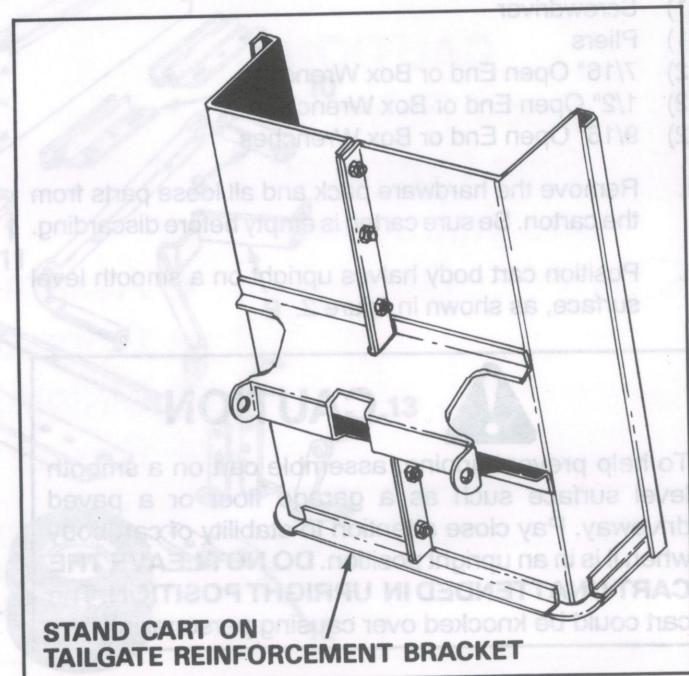

FIGURE 5
- Reverse the cart position and stand up on tailgate reinforcement bracket and proceed with assembly steps 11 through 18. See figure 5.